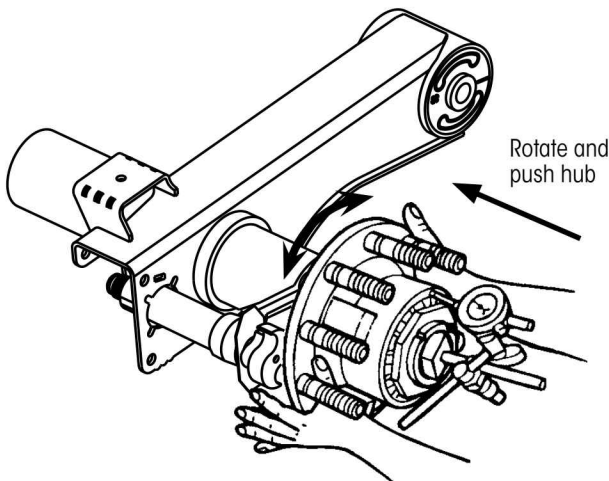

Figure 5: Checking inward end-play
NOTE: A reasonable assessment can be performed without removing tires and rims. However, this procedure is best performed with hub only as shown in Figure 5 on page 8.
8. Grasp hub flange, as shown in Figure 5, and **push** the hub inward while **rotating** hub slightly in both directions (between two hub cap fastener holes) until the dial indicator reading remains constant. **Record** reading.